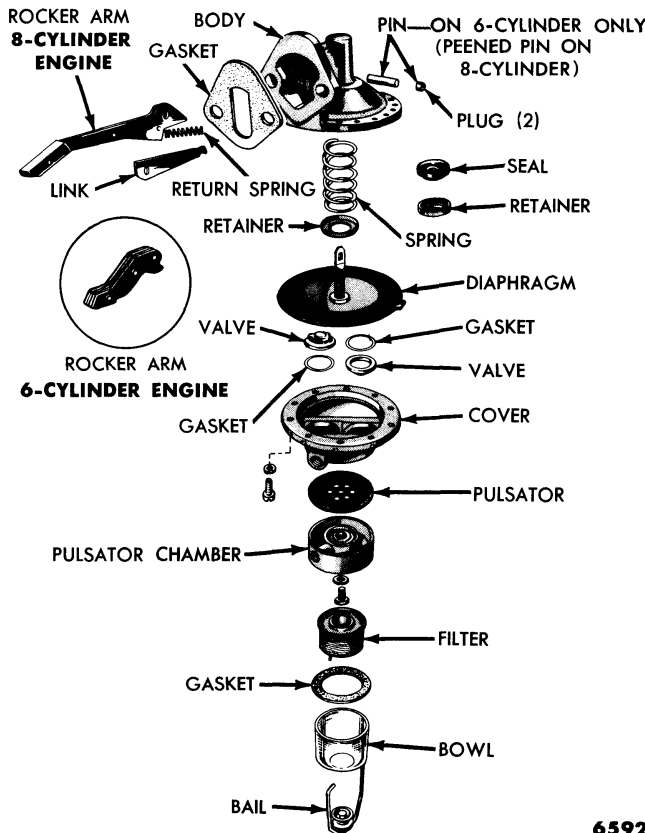

Fig. 68—Fuel Pump—Disassembled
(3) **DISASSEMBLY.** Remove the glass sediment bowl, gasket, and filter (fig. 68). Scratch a line on the pulsator chamber and body so that, on assembly, the inlet and outlet openings will be in the correct position. Remove the pulsator chamber and the pulsator diaphragm.